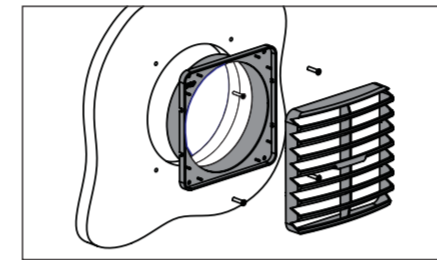

Fig. 24
3. Fix Grille base with four 6 G screws and snap fit the Grille louvres over the Grille base as shown in Fig. 24.